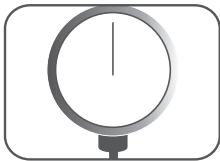

fig. 5
- During use, continuously monitor airway pressure with an accurate pressure monitoring device and adjust the device accordingly (fig. 5).